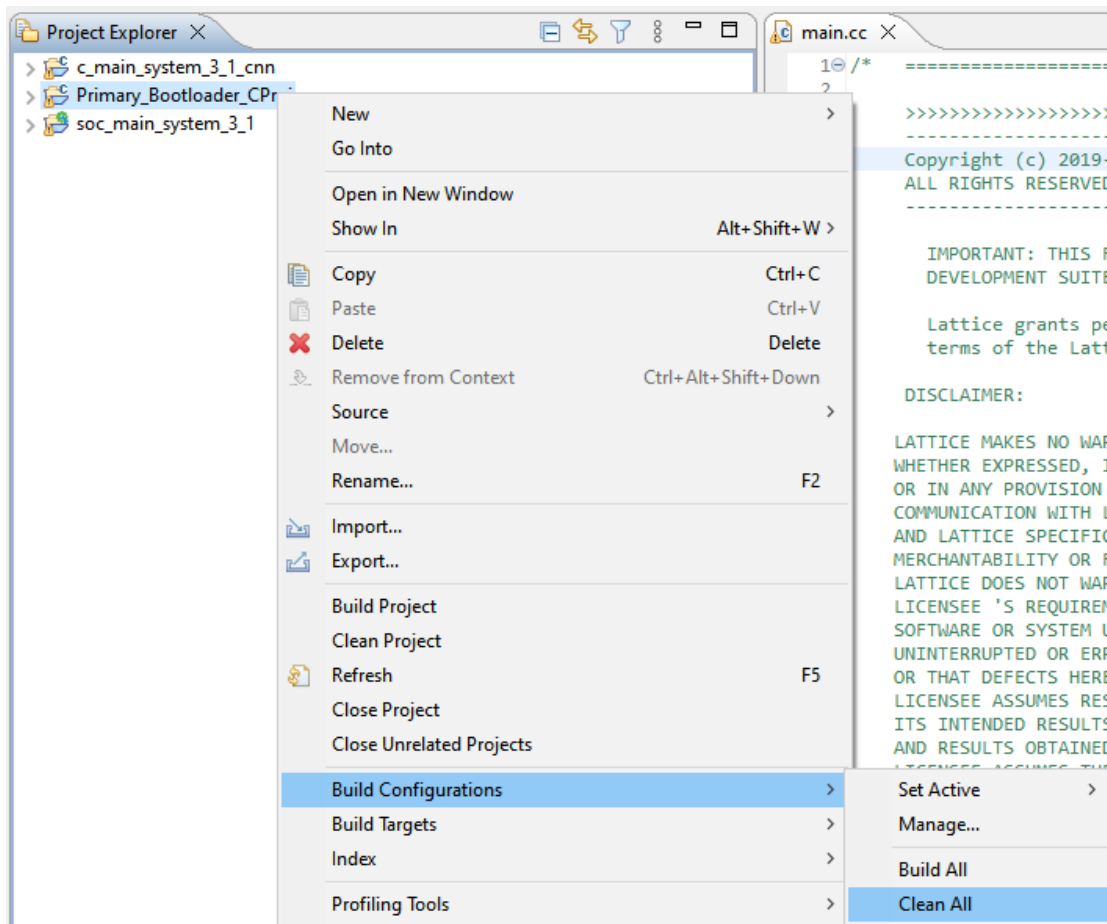

Figure C.26. Clean All Configurations
17. Right-click on the bootloader project folder “Primary_Bootloader_Cproj” and select the option as shown in Figure C.26 to clean the project before building.